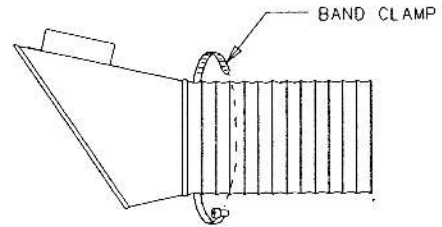

Figure 1
1. Slip the end of the hose over the nozzle and secure it in place with the supplied band clamp. (See figure 1)